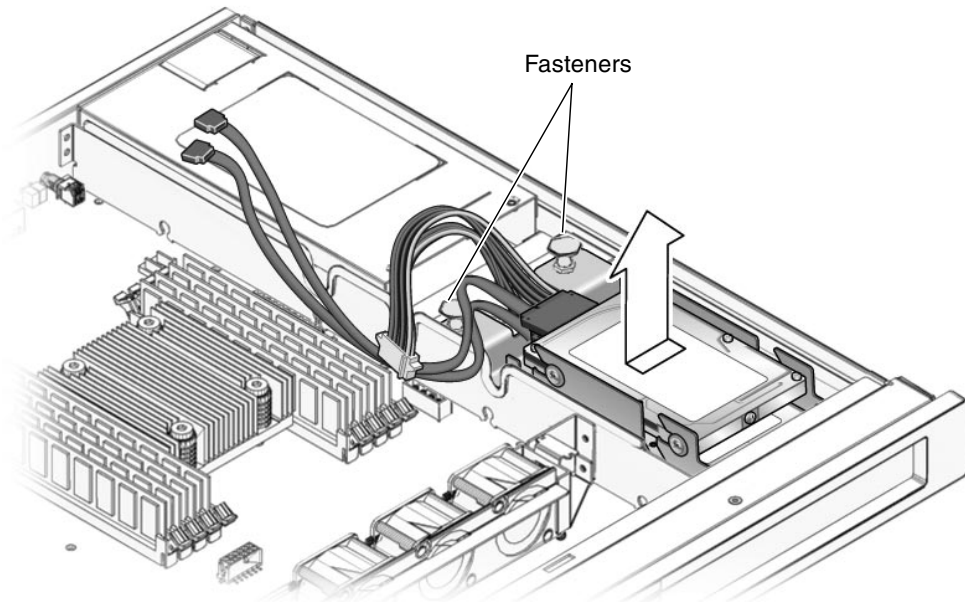

FIGURE 5-9 Removing the Dual-Drive Assembly
3. Pull the fasteners up on the rear of the dual-drive assembly and remove the dual-drive assembly from the chassis (FIGURE 5-9).